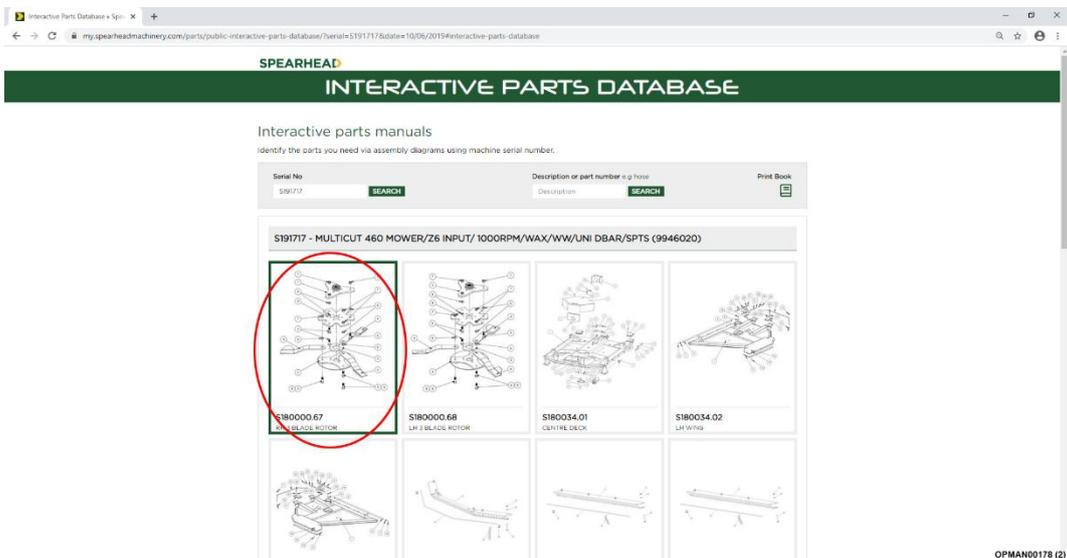

Figure 39 – Click On Assembly
14.1.1.3 After clicking on the serial number a full parts breakdown, specific to the machine serial number will appear showing the various parts and assemblies of the machine. Click on the specific assembly picture required; see Figure 39.